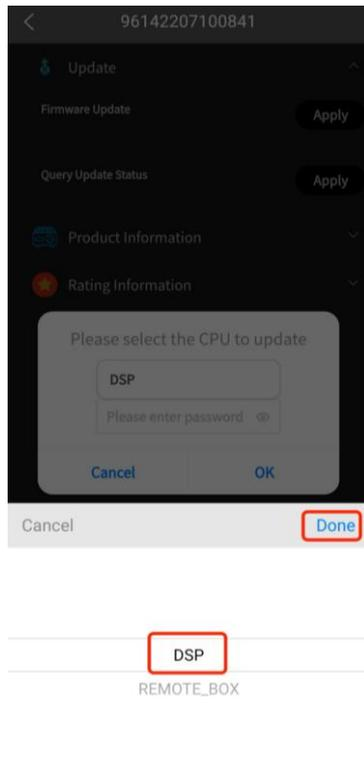

Figure 2
- Enter the password provided by the supplier in the input field and then click "OK". The dialog "Send update command success" will pop up, as shown in Figure 2. The firmware will start updating. Please wait until it is successfully updated. (Be sure to maintain good network conditions and ensure that the inverter is powered on during updating.)